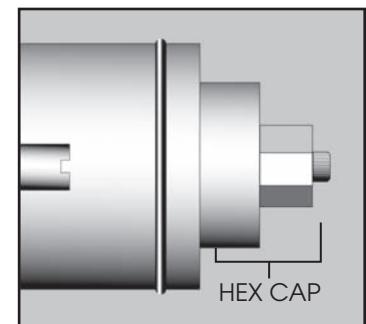

FIG. 4
3. Expose the top of the cartridge by removing the hex cap from the valve body. FIG. 4